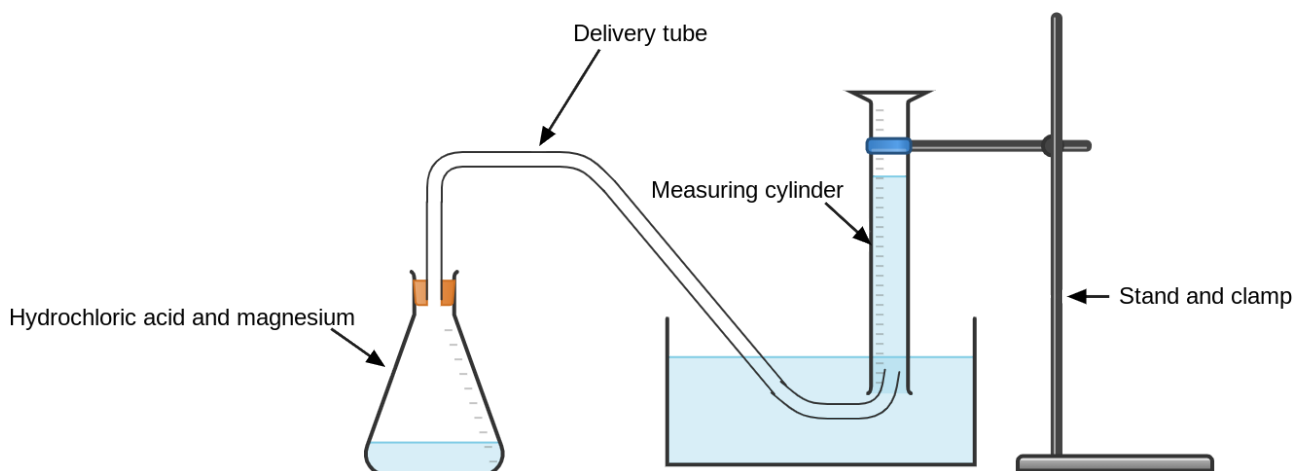

Figure 1 Experiment Setup
1. Set up the apparatus as shown in figure 1 below. The measuring cylinder must be filled with water and turned upside down in the water trough. The delivery tube must flow from the conical flask into this measuring cylinder.